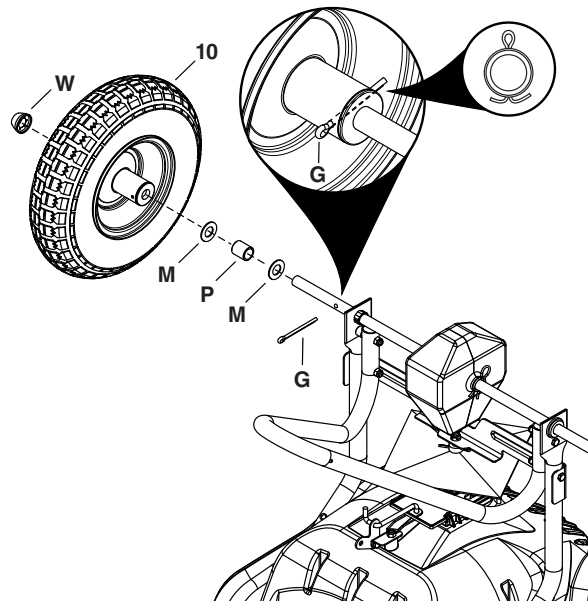

Figure 9
STEP 9: (SEE FIGURE 9)
- Slide a 5/8" washer (M), a spacer (P), a 5/8" washer (M) and a wheel (10) onto the end of the axle with a hole.
- Secure the wheel to the axle with a 3/16" x 2" cotter pin (G), spreading the ends of the cotter pin.
- Using a hammer, carefully tap a hub cap (W) onto the axle.